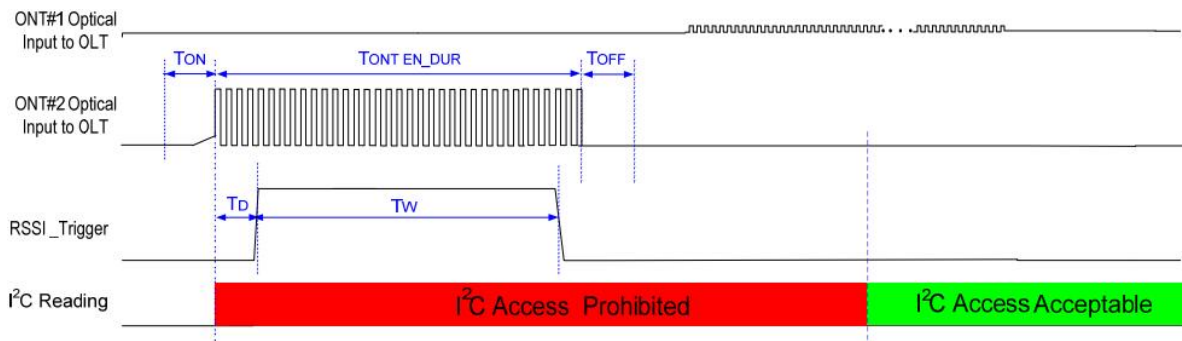

Figure 4, RSSI Timing Sequence
2. For RSSI Measurement, Figure 4.
4. Figure 4.